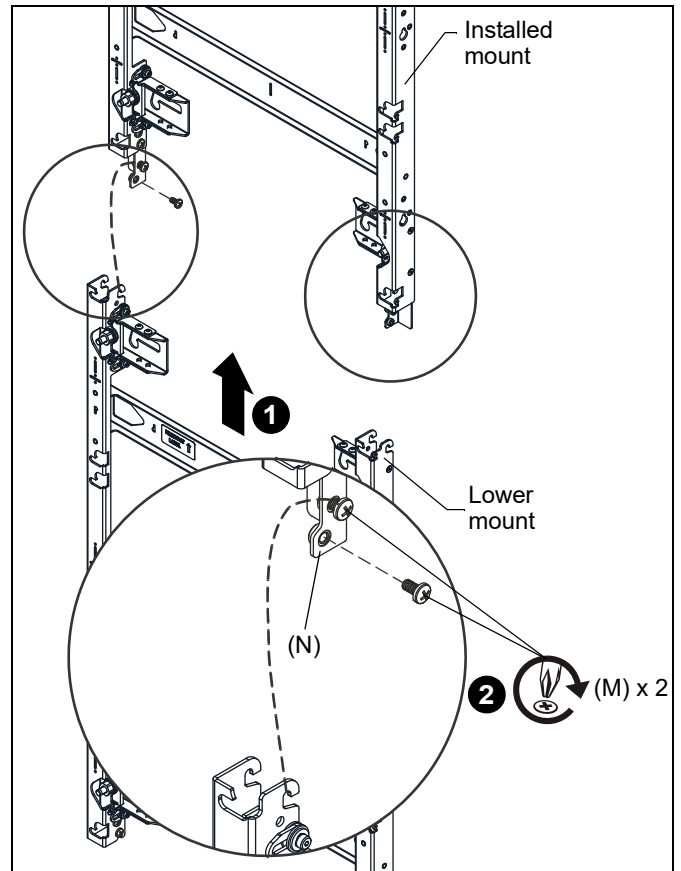

Figure 17
1. Hang the lower mount on the partially installed Phillips head screws (M) in the vertical connectors (N). (See Figure 17)
2. Tighten both lower screws (M) on both vertical connectors (N). (See Figure 17)